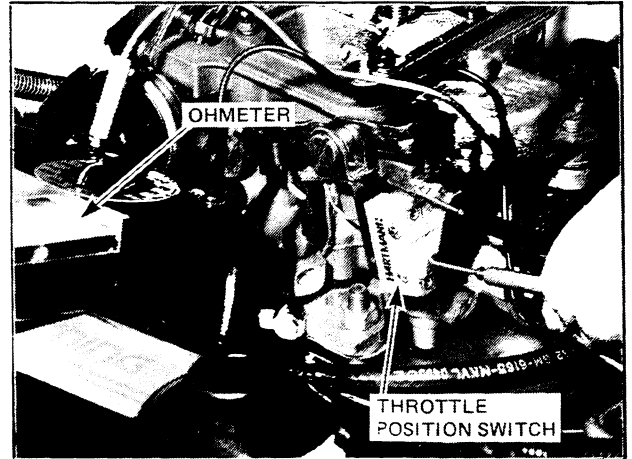

Figure 6D-51
3. Position the fast idle screw onto the second highest step of the fast idle cam. Refer Fig. 6D-52. Check that the switch is open, the ohmmeter reads infinity ohms.